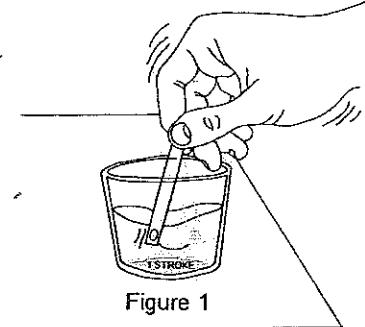

Figure 1
1. Move the strip at a gentle, constant rate of approximately two (2) strokes per second (see Figure 1).
3. Use a container that allows a stroke distance of approximately 1 to 2 inches (2.5 to 5.0 cm) (See Figure 1).